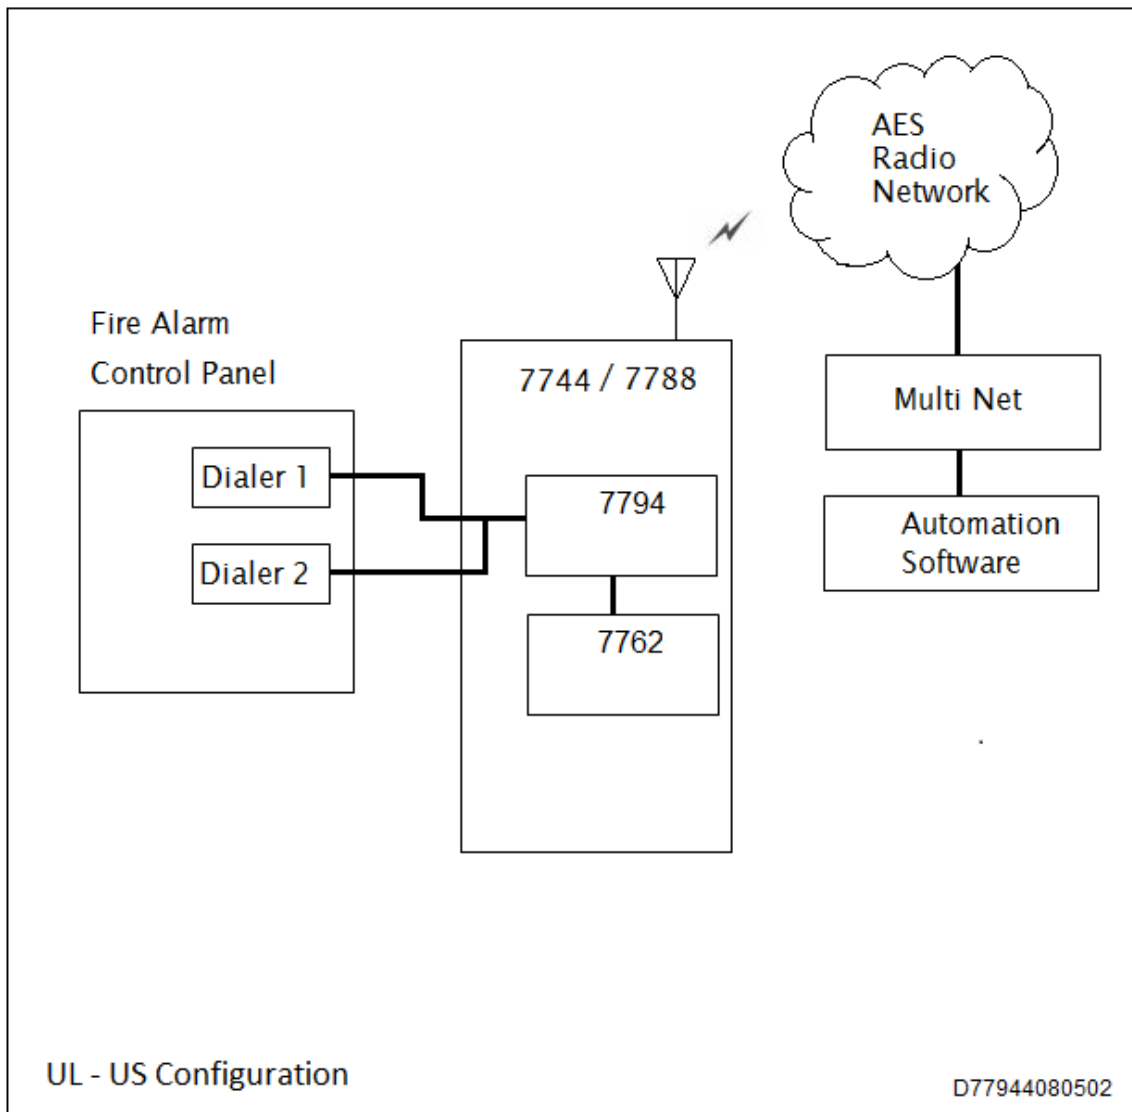
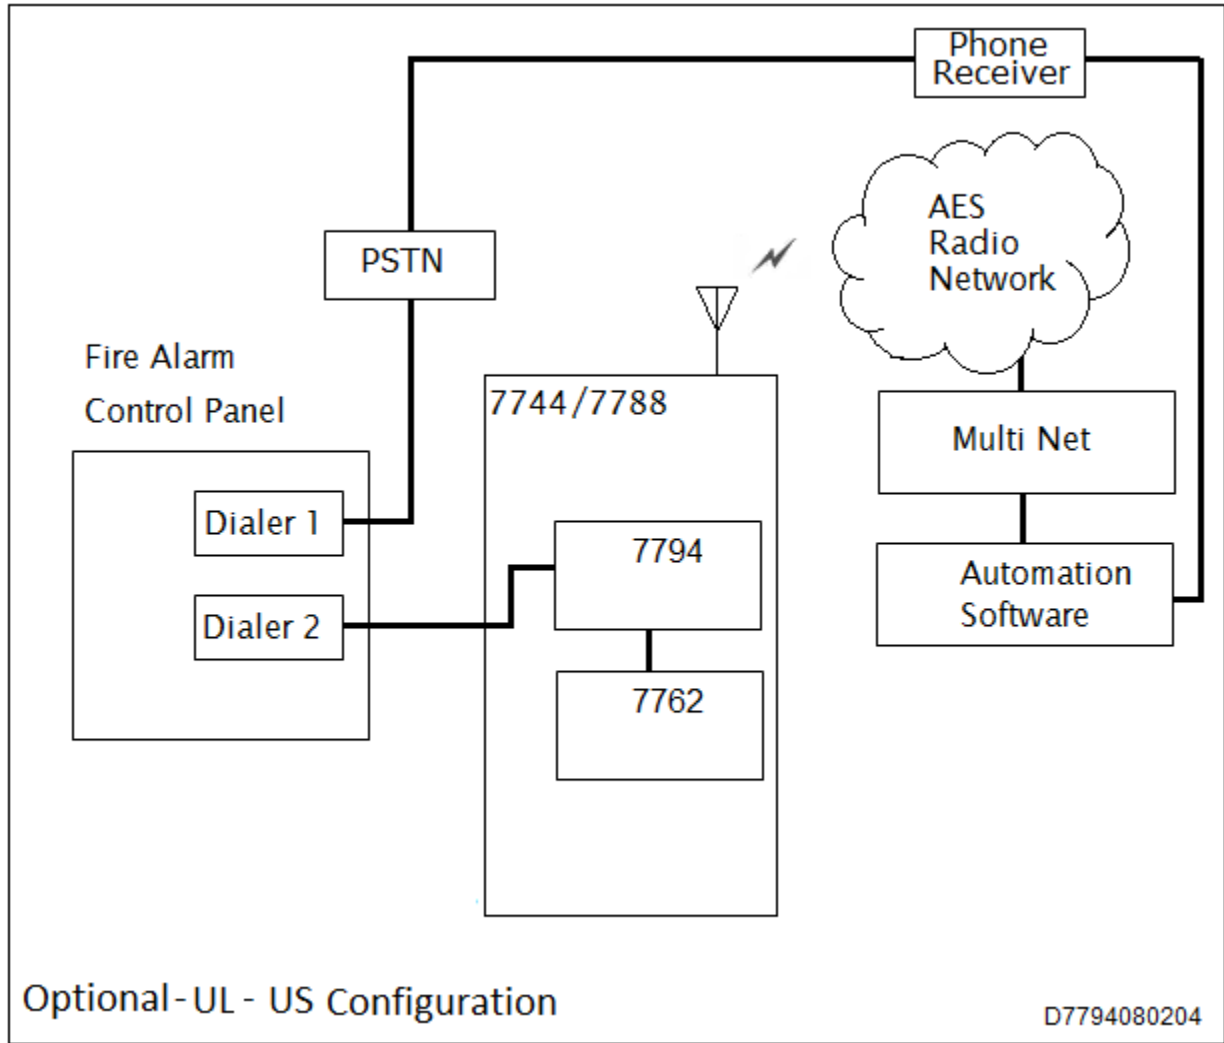
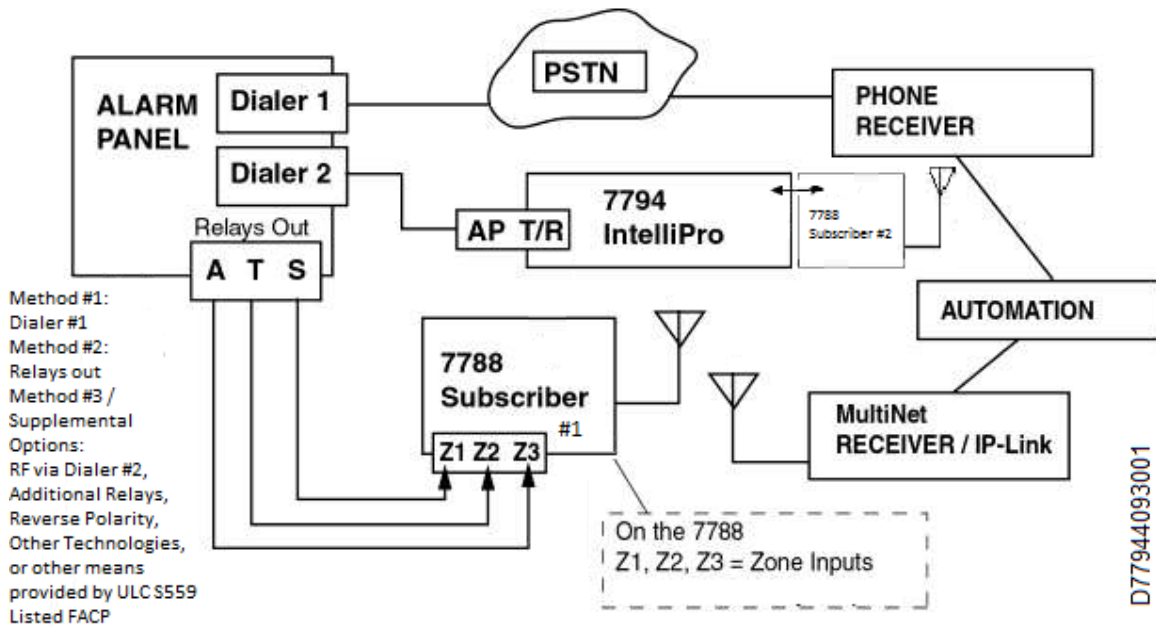

Figure 5.
Figure 5A.
Figure 6D.
The 7794 can provide voltage to both telephone line connections if they are connected together in parallel with TIP to TIP and RING to RING as shown in Section 3, Figure 5 and Section 4, Figure 6D.
When mounted in a subscriber enclosure and connected to the Fire Alarm Control Panel dialer, the 7794 delivers alarm messages to the central monitoring station as shown in Figure 5 and Figure 5A below. The 7794 is supervised by the 7762 using a ‘heartbeat’. See the 7762 Install Manual AES P/N 40-7762 for detail. **NOTE: The 7794 IntelliPro and subscriber must be connected to the FACP within the same room and in no more than 20 ft. of conduit.**
When mounted in a subscriber enclosure and connected to the Fire Alarm Control Panel dialer, the 7794 delivers alarm messages to the central monitoring station as shown in Figure 5 and Figure 5A above. **NOTE: The 7794 IntelliPro and subscriber must be connected to the FACP within the same room and in no more than 20 ft. of conduit.**
- 3) Wire the Zones of the FACP into the 7788F-C #1 as depicted above in Figure 6D.